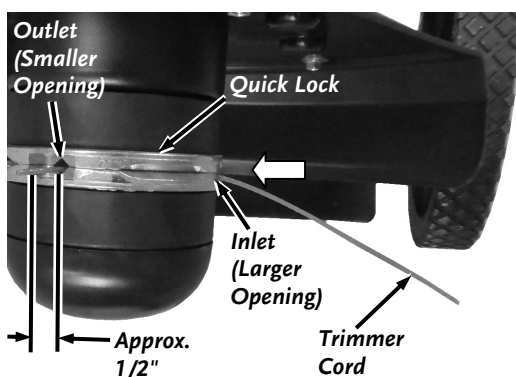

Figure 12
**Note:** The Cord can only move through the Quick Lock in one direction (**Figure 12**). To remove it you must pull it from the other side of the Holder (where the 1/2" end is).